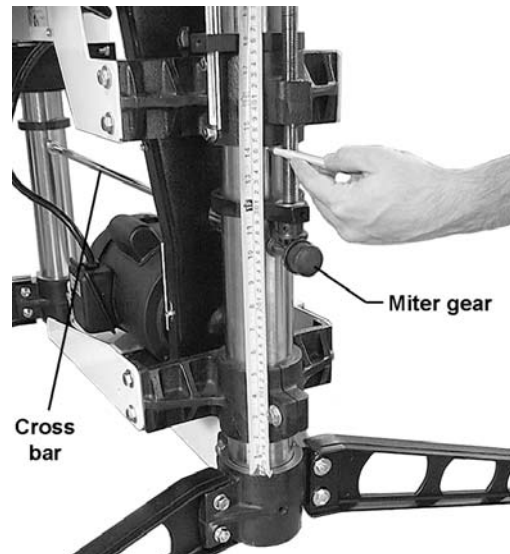

Figure 29
1. If the conveyor table does not rise and lower easily, measure the distance between the top of the base column support and the bottom of the table support on both the inboard and the outboard side of the machine. See Figures 29 and 30.
2. Compare these measurements; they should be within 1/16". If they are not, disengage the miter gear on the inboard side of the transfer rod (Figure 29) by prying off the protective cap with a screwdriver and loosening the set-screw in the gear's collar.